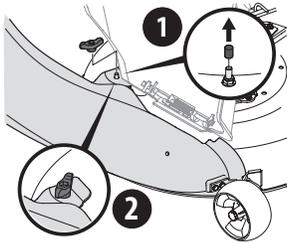

Figure 18
2. Secure the boot to the deck using a wing knob (720-04122) from hardware pack 689-00636. See Figure 18.
NOTE: If present, remove the protective cap off of the mounting stud on the mowing deck as shown in the upper inset of Figure 18.